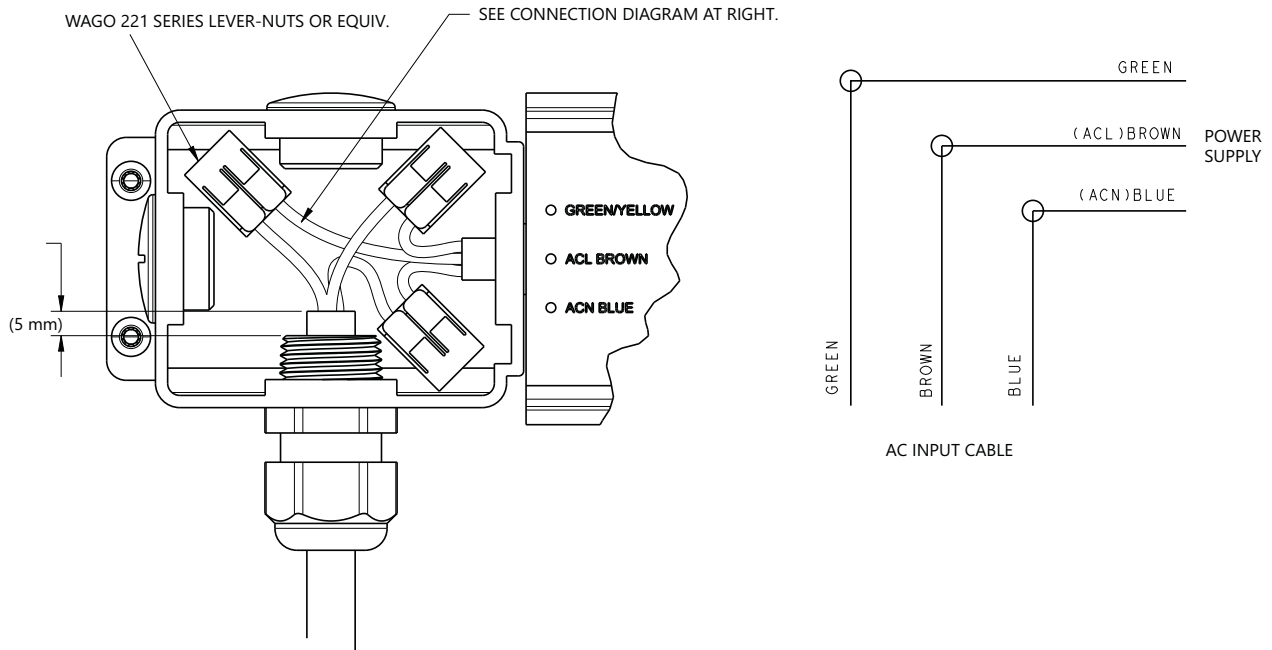

Figure 16. AC/DC Supply Cable Terminations
- 3 Terminate the cables using WAGO 221 Series Lever-Nuts or equivalent connectors as shown in Figure 16.